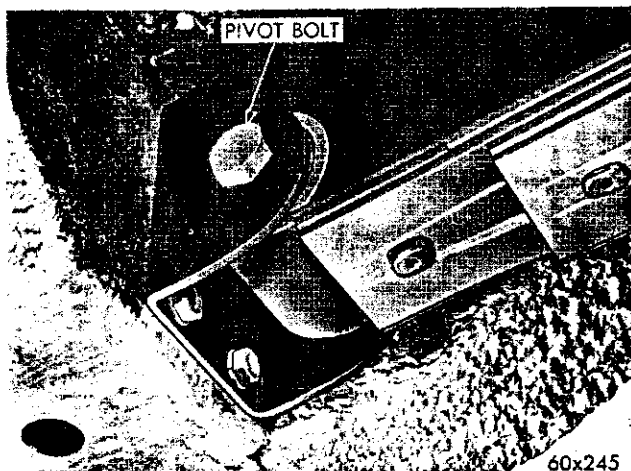

Fig. 3—Rear Spring Front Hanger
(3) Loosen the rear spring silent block bolt nut. The nut should be backed off until it is retained on the silent block bolt (Fig. 3) by two or three threads.
(4) Using a pry bar between the silent block bolt nut and the body frame, force the silent block bolt